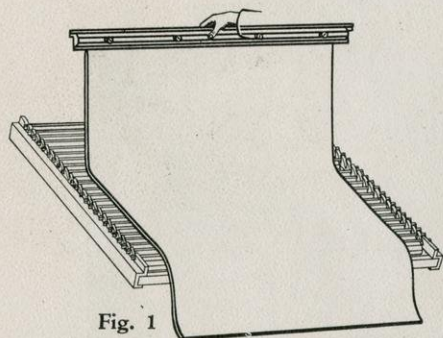

Fig. 1
**FIRST :** Grasp binder in center with right hand and lay prints on rack so binder is above opening for it. (See Fig. 1). Hold